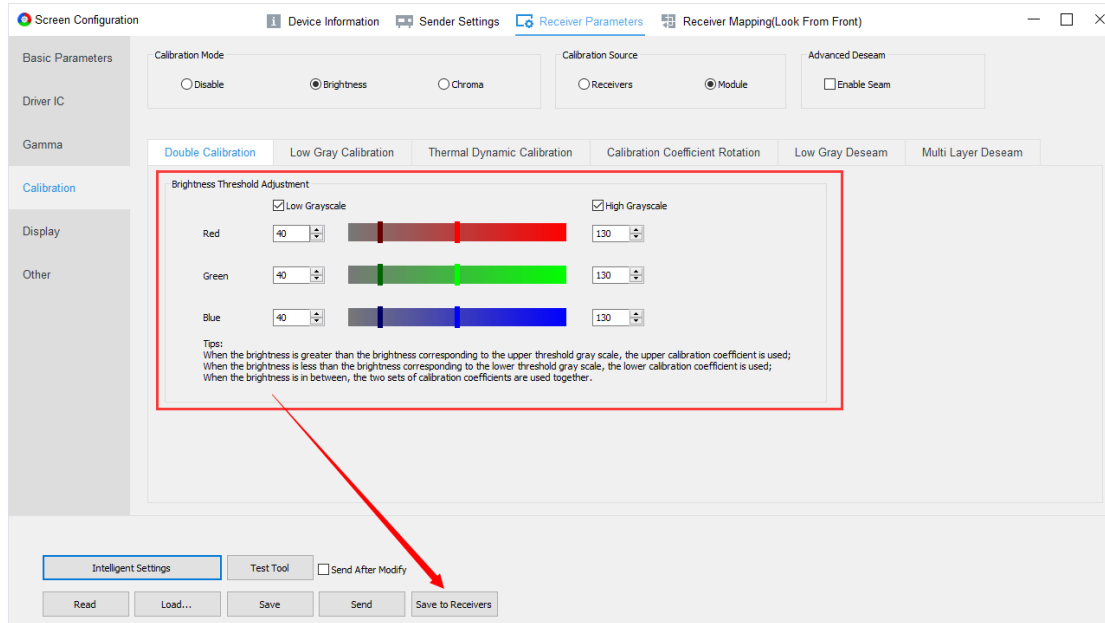

Fig 8.4.1.1 Brightness – Enable double calibration
Step 1: Go to **Receiver Parameters > Calibration** to enable **Low Grayscale** and **High Grayscale** under **Double Calibration**. Specify the threshold values under **Brightness Threshold Adjustment**. Then click **Save to Receivers**, as shown in Figure 8.4.1.1.